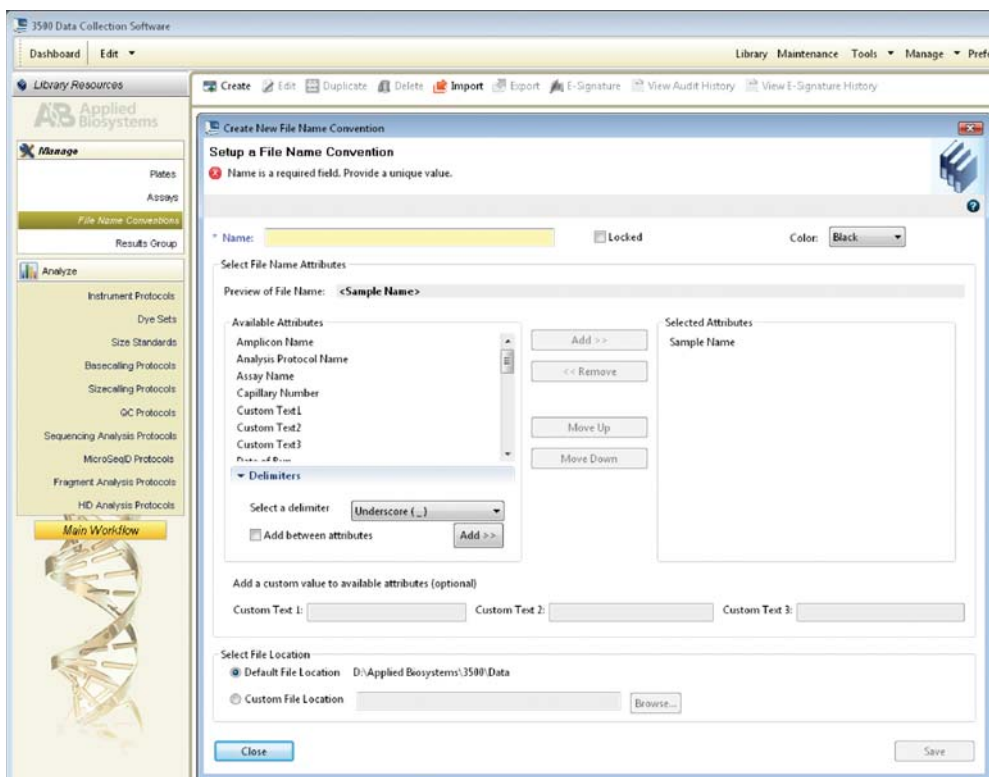

Figure 7. The Create New File Name Convention window.
- To create a new File Name Convention (Figure 7), navigate to the Library. Select “File Name Conventions”, then select “Create”. Alternatively, a previously created File Name Convention may be used.